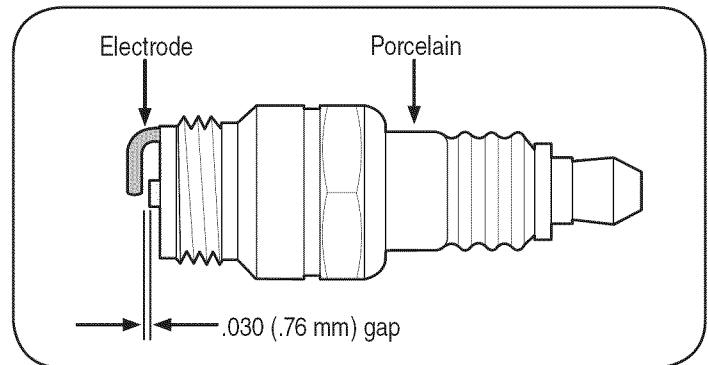

Figure 29
2. Remove and inspect the spark plug. Check gap to make sure it is set at .030". See Figure 29.